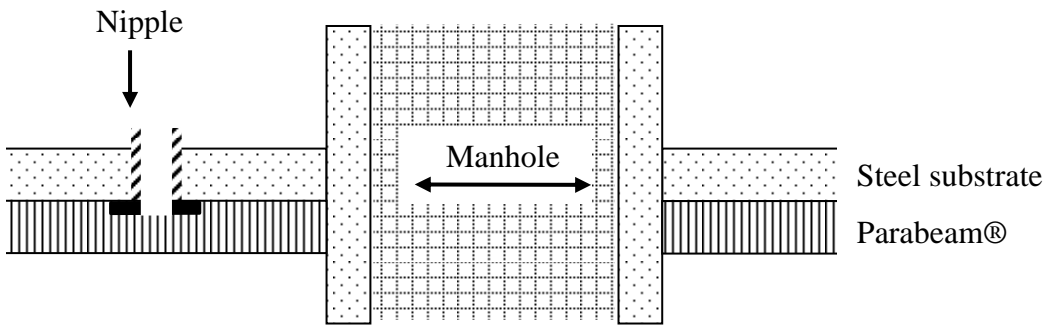

Figure 15
2. A hole drilled from the inside out through the Parabeam® and the steel substrate and next to the man way (figure 15).